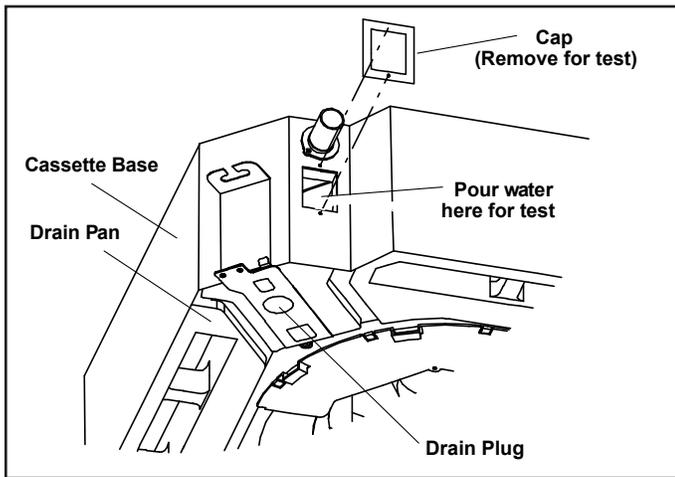

Figure 8. Test Condensate Drain
- Access is required during the commissioning process to test the condensate disposal system (See Figure 8), to check flare nuts, and to check the local disconnect. Ceiling framing should not restrict access.
6. After system installation is complete, the condensate drain line must be checked for leaks and the condensate pumps must be checked to ensure proper operation. This check is part of the commissioning sequence. Pour water into the evaporator drain pan to ensure proper condensate drainage. See Figure 8. If a leak is found, shut down power to the unit at once and do not restore power to the unit until the problem has been resolved.